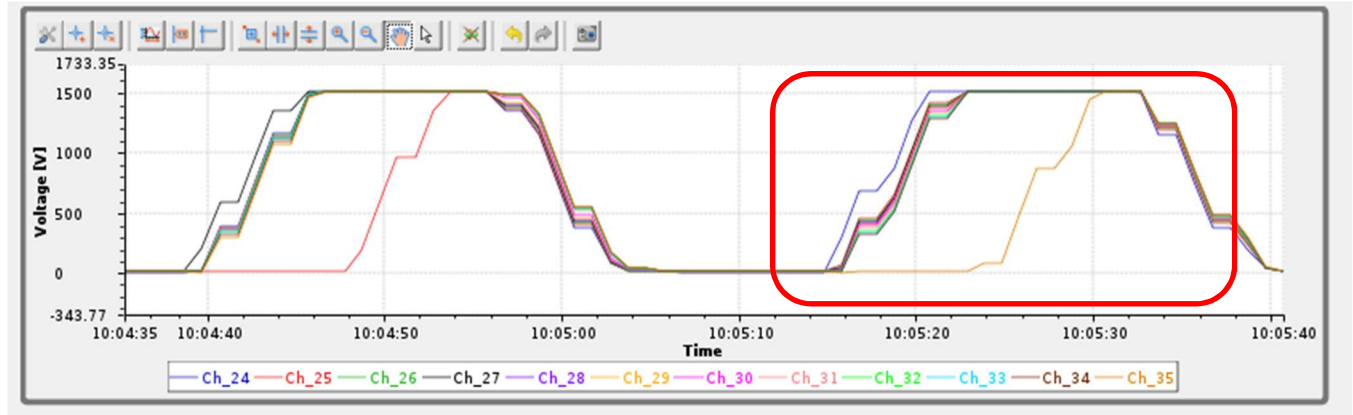

Fig.23 – HV CAEN – Voltage Ramp Test CSS BOY screen zoom in view shows latency incident for channel 35.
3. Channel 35 had same misbehavior as mentioned in previous test; channel 25 presented one latency incident during this trial. See fig.23.